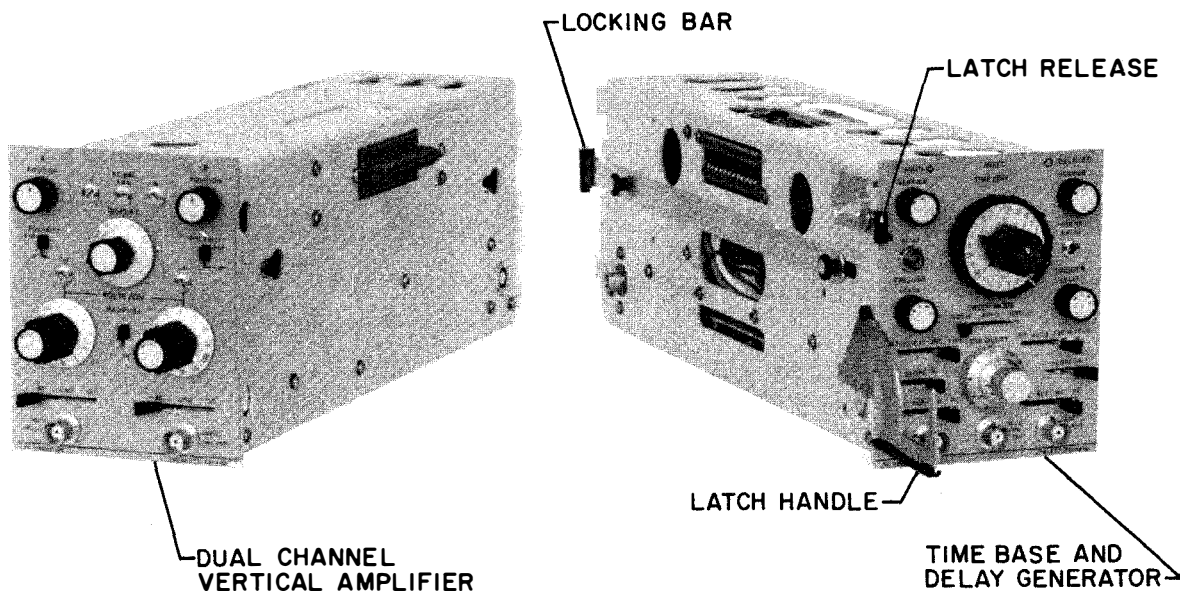

Figure 2-1. Plug-In Unit Removal and Installation
- (1) Lift latch release and rotate latch handle downward away from panel (see figure 2-1).
- (2) Using latch handle, pull plug-in assemblies from oscilloscope assembly.
- (3) Pull locking bar to the rear.
- (4) Separate plug-in assemblies.